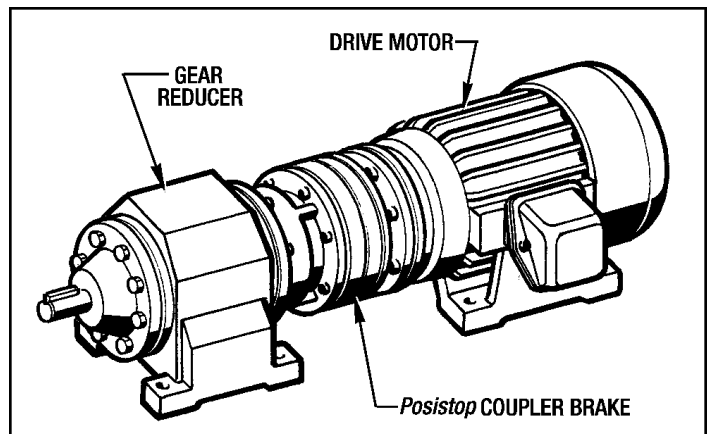

Figure 1.1 - Posistop Coupler Brake Drive Package
(See Figure 1.1)
*Typical Drive Assembly is shown in Figure 1.1.*
(See Figures 1.1 and 1.2 )